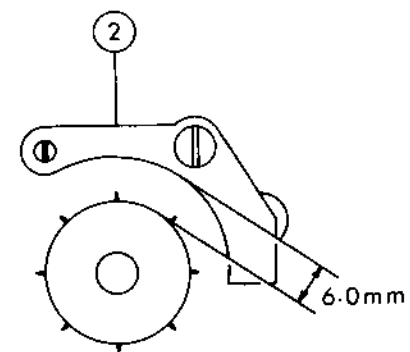
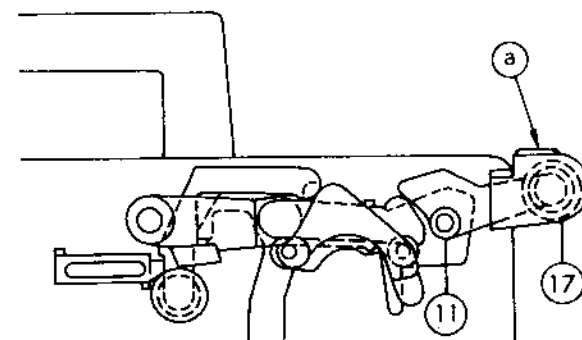

Fig. 39
Fig. 40
2. Replace ④, ⑬ or ⑱ if damaged or deformed.
3. Carry out temporary tightening of ⑦ and ⑨.
5. Roller ⑳ provides loop at the upper part of film gate; adjust ⑨ and fix so that ㉔ slightly touches ㉑, with the knob main set to OFF.
6. Set the film, and turn the knob main gently from OFF to FWD. Then the roller ④ installed to ② pushes the film and gets engaged with the sprocket gears (teeth), and P.P. pushes the film down to A.P. Here, ㉔ detaches one step away from ㉓. Install ⑦ to this position. (See to it that the space between sprocket and ② is approx. 6 mm. Refer to Fig. 39)
7. Measurement of spring tension of ⑫
Method: — Refer to Fig. 40, and measure by pushing ⑪ "a" in arrow mark direction with the rod spring beam (C043).